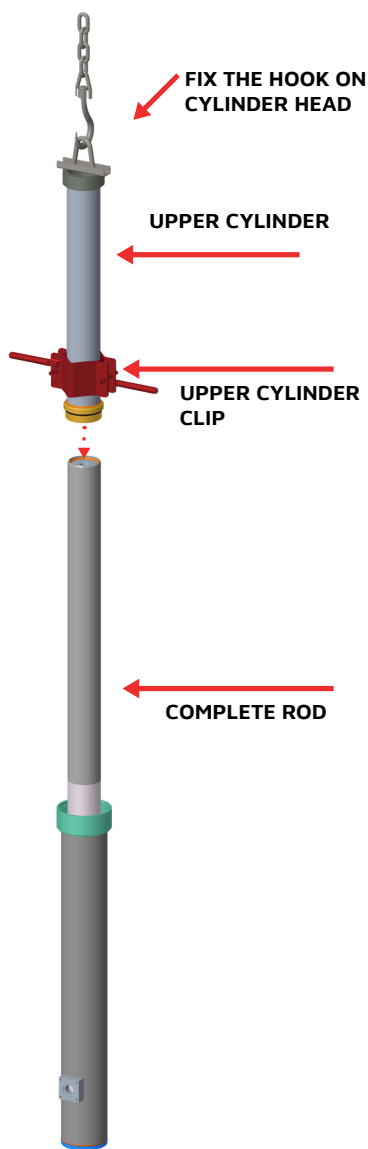

Fig 11
9. Remove the clips from the rod, then position the latter at the bottom of the cylinder; remove the transport hook. **(Fig 11)**
10. Fix the transport hook to the welded head, using the two screws supplied. **(Fig 11)**